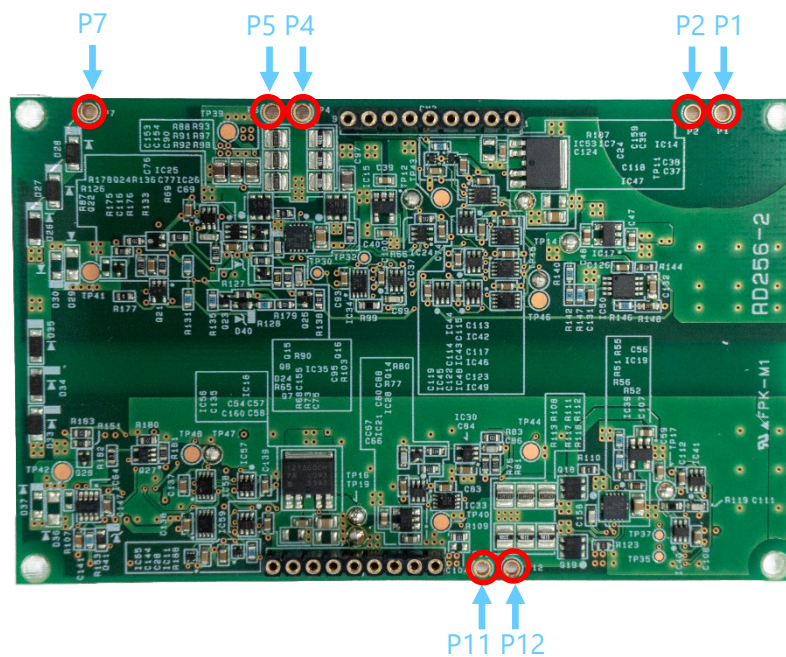

Figure 4.2 Through-Hole Layout on the Board Surface
- Place this design on the SiC MOSFET module and confirm that the seven signal terminals fit into the through-holes of this design (see the red circles in Figure 4.2).